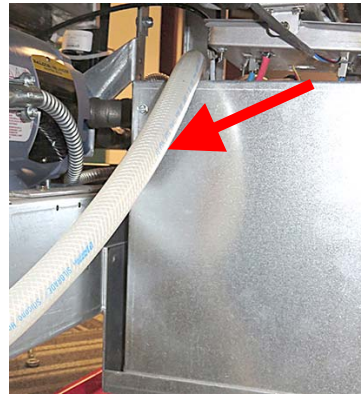

Figure 27
27. Route the JIB hose over the FIB (ATO) box towards the front of the fryer (see Figure 27).